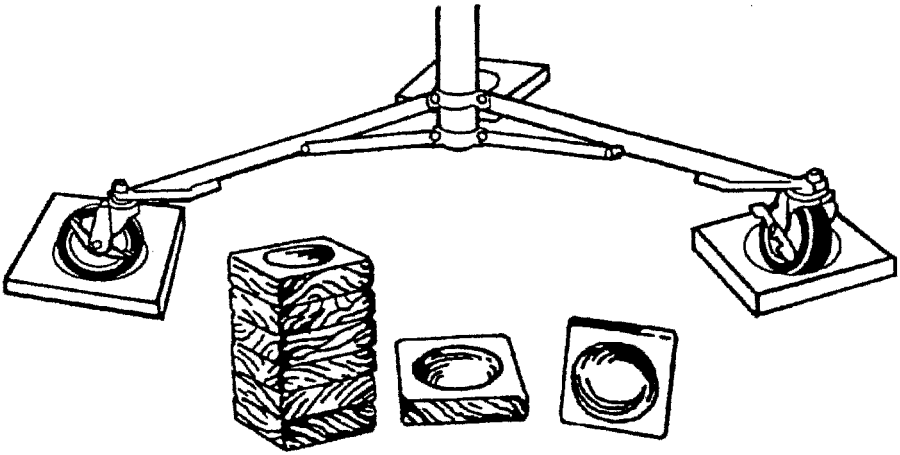

Figure 2.20 Cup blocks.
1. Cup blocks are made of wood and designed to be placed under wheeled objects, such as light stands or parallels, to prevent them from rolling (Figure 2.20).